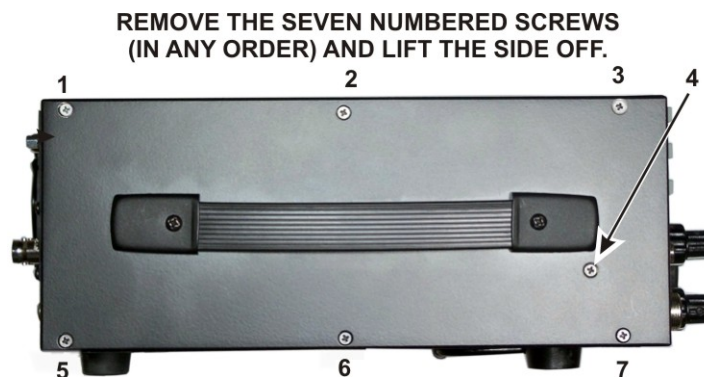

Figure 2. Removing the Left Side Panel.
- Stand the K3 on its side feet, remove the seven screws shown in Figure 2 and lift the left side panel off. Set the side panel aside in a safe place to avoid scratches.